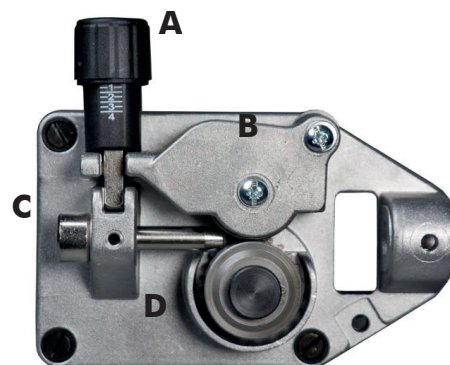

Figure 11
- Loosen and lower the plastic knob (A) (Fig.11). Open the pressure arm (B) of the feeder. Extract the wire from the torch liner.
- When the wire is disconnected, grasp it with pliers so that it cannot exit from the spool. If necessary, straighten it before inserting it in the wire input guide (C). Insert the wire on the lower roll (D) and in the torch liner.